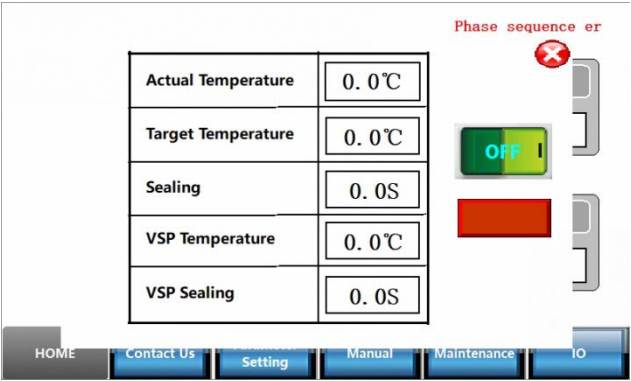

Figure 8
6.8 Temperature Setting (Figure 8)